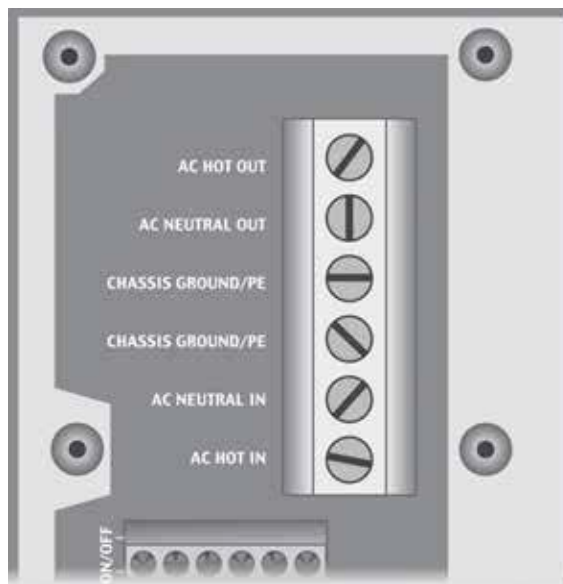

Figure 32 AC Terminals
4. Using a DVM or voltmeter, verify 120 Vac (or appropriate voltage) between the AC HOT OUT and AC NEUTRAL OUT terminals. (See Figure 32 for AC terminals.) The inverter is working correctly if the AC output reads within 10% of 120 Vac or the programmed output voltage.